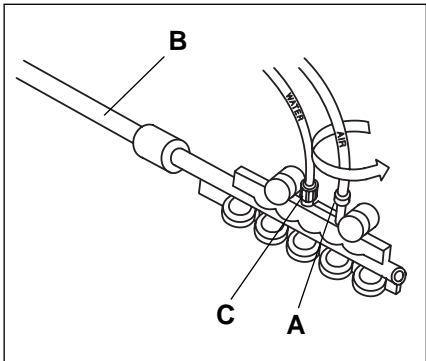

Figure 9.12
- 5. Twist and pull to disconnect air line (A) (Figure 9.12).
- 6. Disconnect (B) the waste hose from the waste outlet (Figure 9.12).
- 7. Turn the entire manifold to disconnect the water line (C) (Figure 9.12).
The air line check valve (A) (Figure 9.12) may be replaced without removing wash manifold.